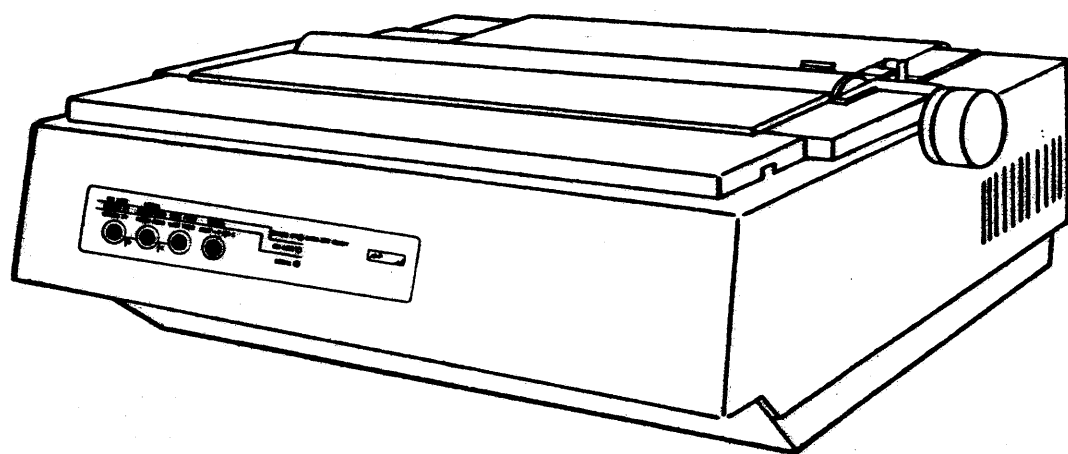

FIGURE 3-12. ROSY 26 SLAVE TERMINAL(WITHOUT KEYBOARD)
The slave terminal device is a Rosy 26 printer without a keyboard, therefore, it is a Receive Only (RO) device and serves as a slave monitor to the local terminal. The "ON" or "OFF" state of the slave terminal does not affect the normal operation of the Channel Adapter (CONJK Board). The data transfer rate of the slave terminal is the same as the local terminal device. See Figure 3-12.